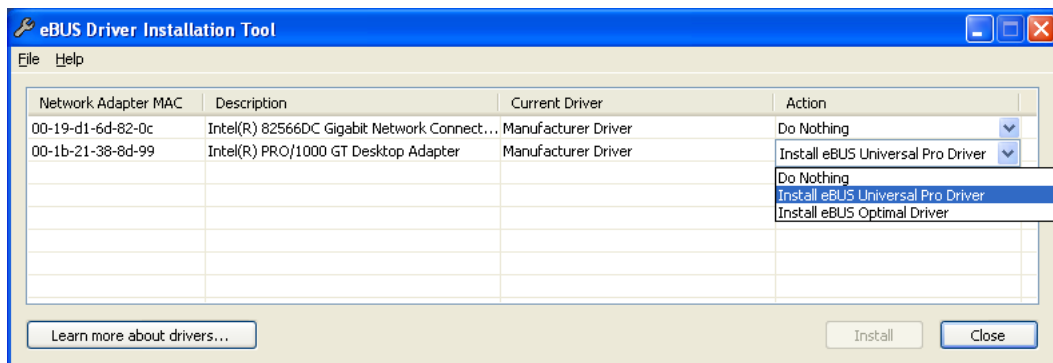

Figure 3.2: eBUS Driver Installation Tool
4. After the computer has been restarted, open the eBUS Driver Installation tool (Start -> All Programs -> eBUS SDK -> Tools -> Driver Installation Tool) (see Fig. 3.2). If there is more than one Ethernet network card installed then select the network card where your Photonfocus GigE camera is connected. In the Action drop-down list select Install eBUS Universal Pro Driver and start the installation by clicking on the Install button. Close the eBUS Driver Installation Tool after the installation has been completed. Please restart the computer if the program asks you to do so.